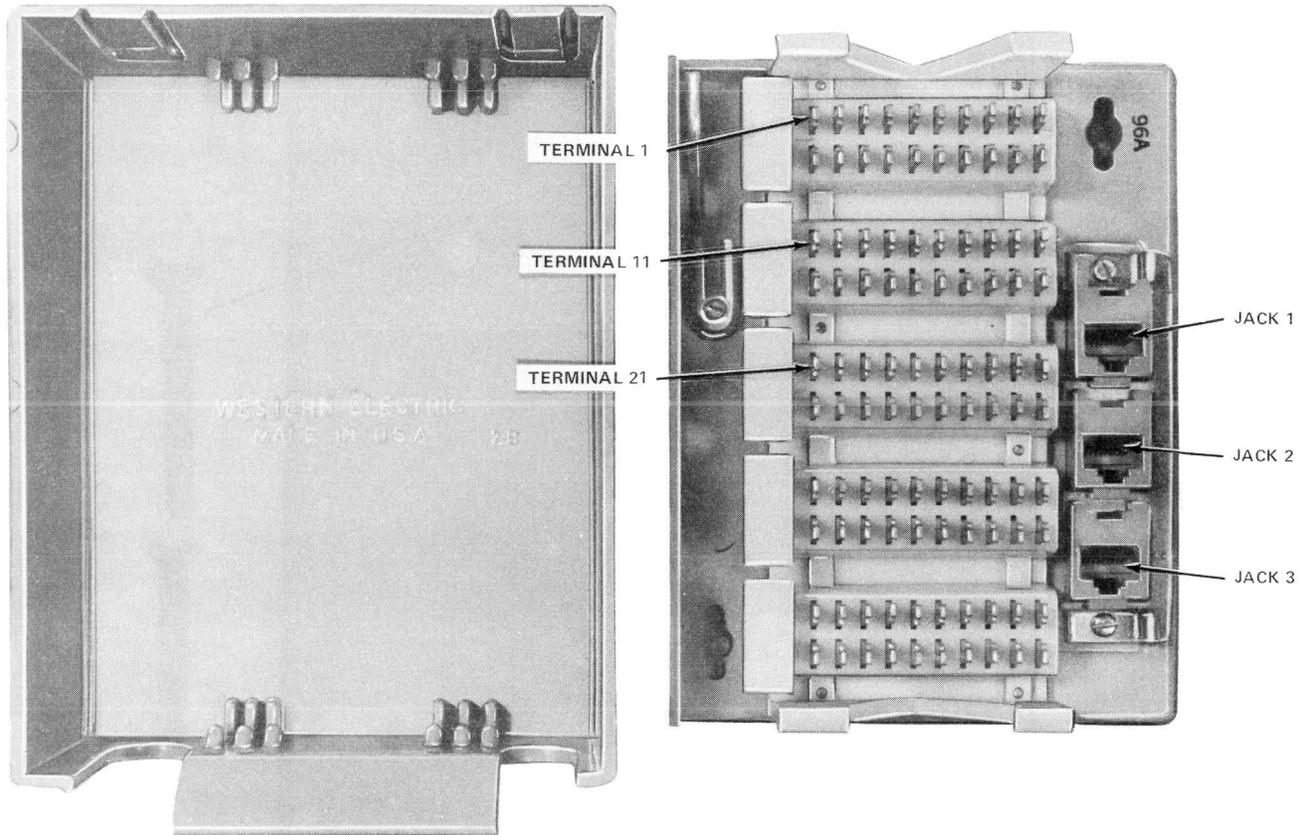
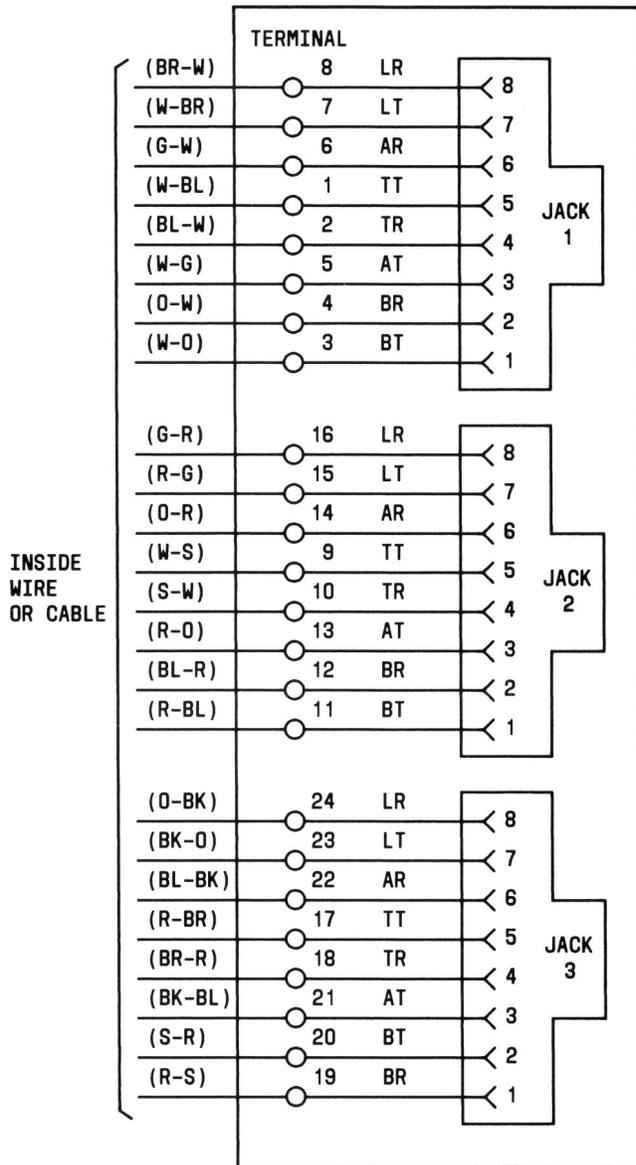

Fig. 4—96A Connecting Block
Fig. 5—96A Connecting Block, Schematic
2.04 The 96A connecting block (Fig. 4) is similar to a 66E3-25 connecting block except the KS-type connector has been replaced by three 8-contact modular jacks. The modular jacks are wired to the clip terminals so that up to three modular telephone sets with D4-, D6-, or D8-type plug-ended mounting cords can be terminated. Wiring of the 96A connecting block is shown in Fig. 5.